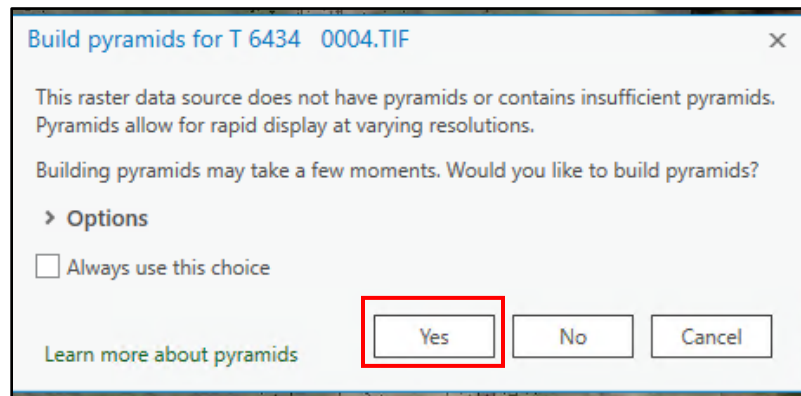

Figure 27
4. If a pop-up screen appears suggesting to build pyramids select "Yes" (Figure 27).